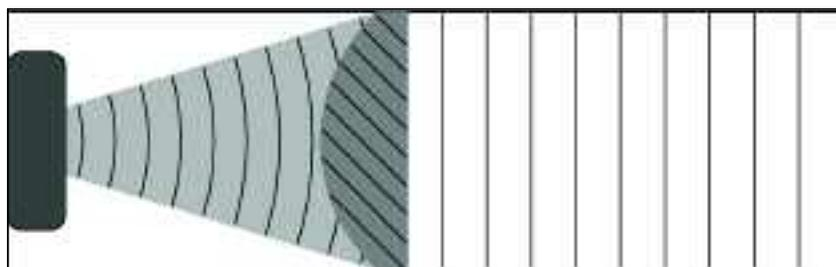

Figure 3: A look at the STLA waveguide.
What did all of this tell us as we set about designing the Renkus-Heinz (RH) STLA line array loudspeaker system? Let's start by looking at a schematic of the waveguide used in a STLA module (Figure 3).